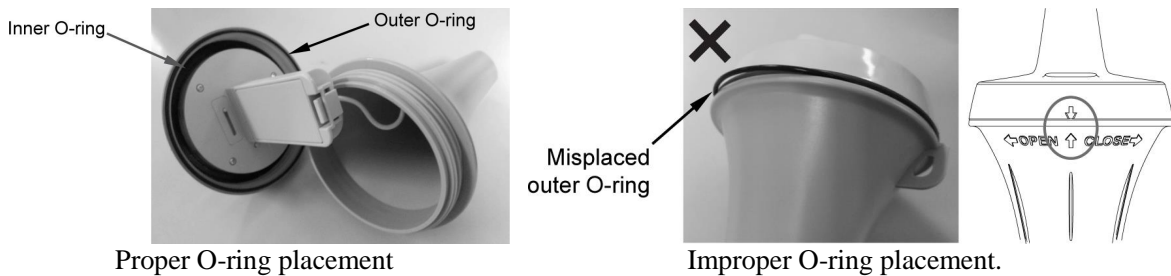

Figure 4
- Close the casing tightly so the two vertical arrows align vertically and pointing to each other (circled in gray, Figure 4).